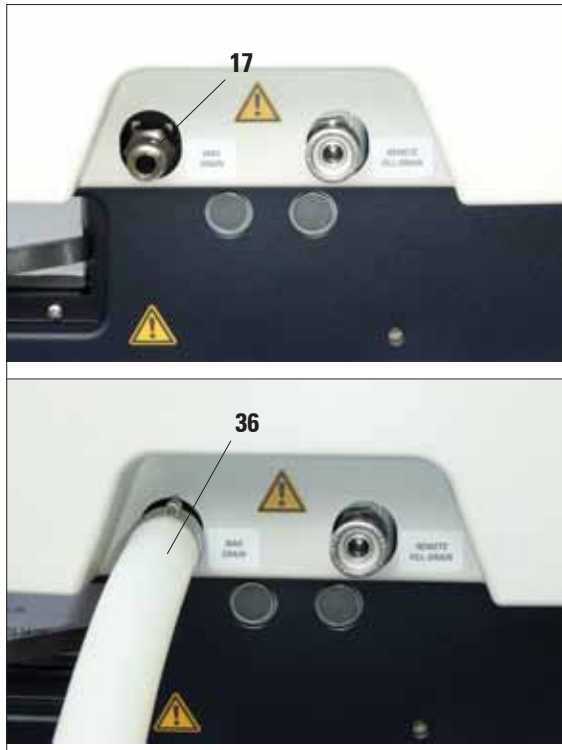

Fig. 55
- Connect the paraffin drain hose (36) to the spout (17) of the paraffin drain at the front of the instrument (Fig. 55) and into a catch tank.